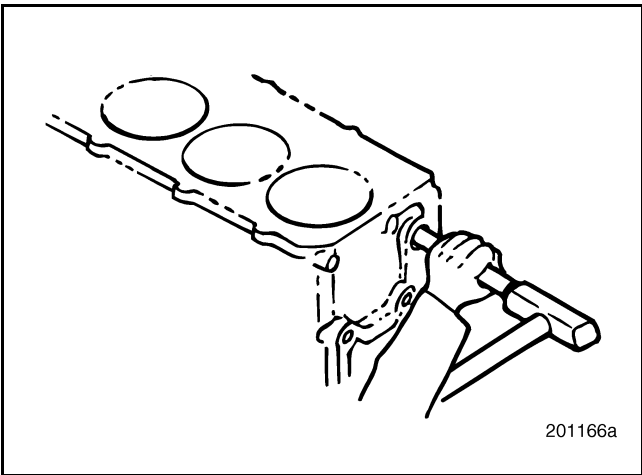

Figure 193 — Cylinder Block Cup Plug Installation
2. Using a proper driver, align the plug in the hole and drive it inward until the outer lip of the plug is 0.090 ± 0.040 inch (2.286 ± 1.016 mm) below the machined counterbore. Refer to Figure 193.